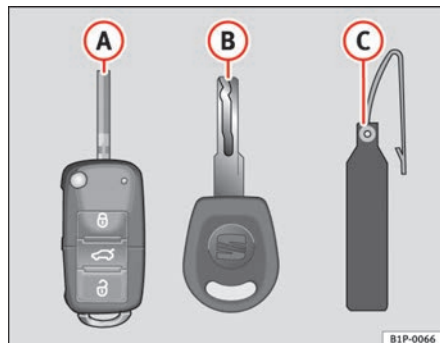

Fig. 63 Set of keys
- one remote control key ⇒ fig. 63 (A) with folding key bit,
- one key without remote control (B),
- one key tab (C) with the key number.
Spare keys cannot be issued without the key number on the key tab ⇒ fig. 63 (B). Therefore: